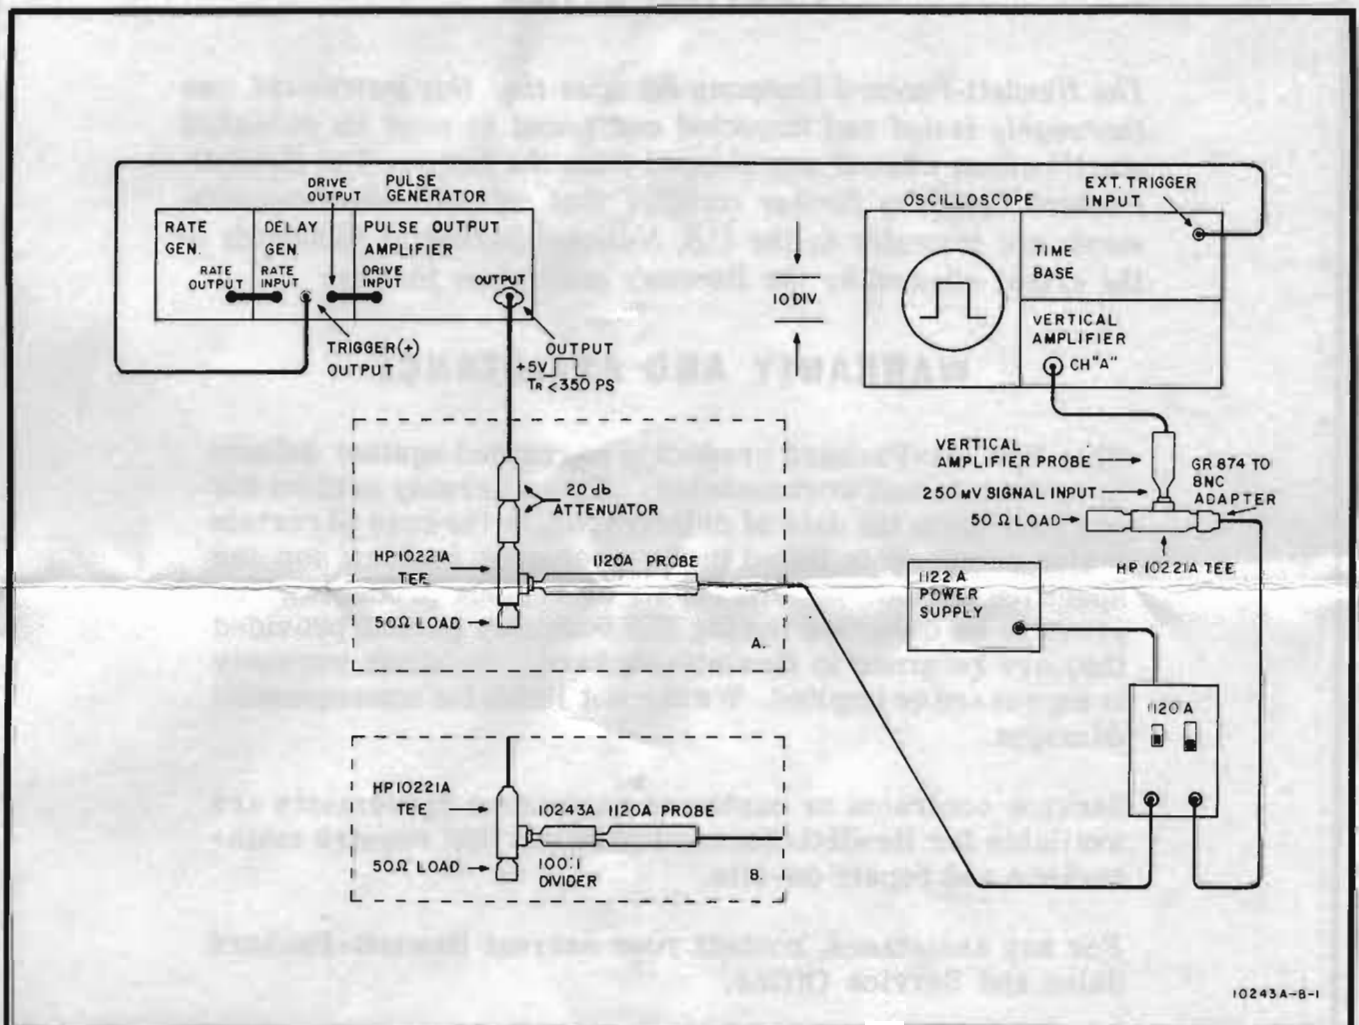

Figure 3. Test Equipment Set-up
- b. Connect test equipment as shown in Figure 3-A.
- e. Reconnect test equipment as shown in Figure 3-B. This removes two 20 dB attenuators from between pulse generator and Model 10221A T connector and inserts Model 10243A to Model 1120A (Model 1121A) probe.
- a. Set up test equipment as shown in Figure 3-B.